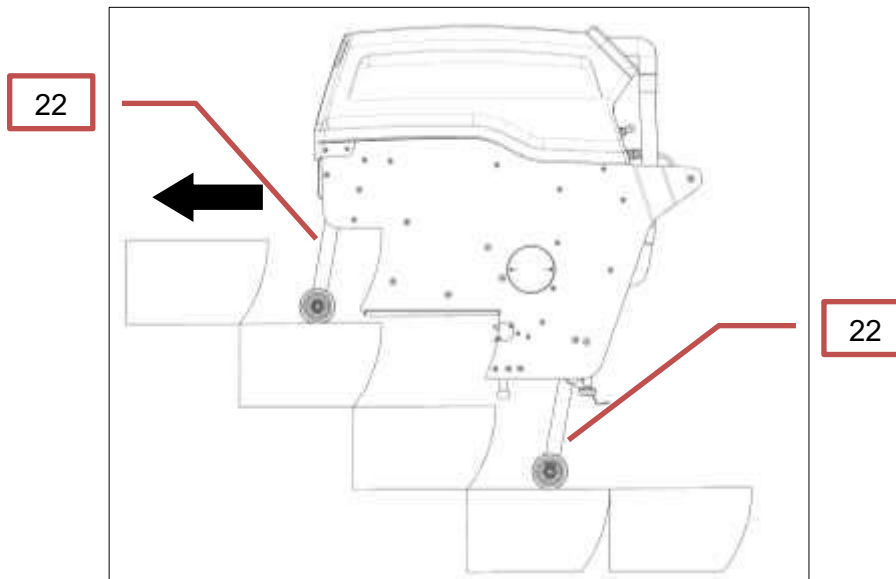
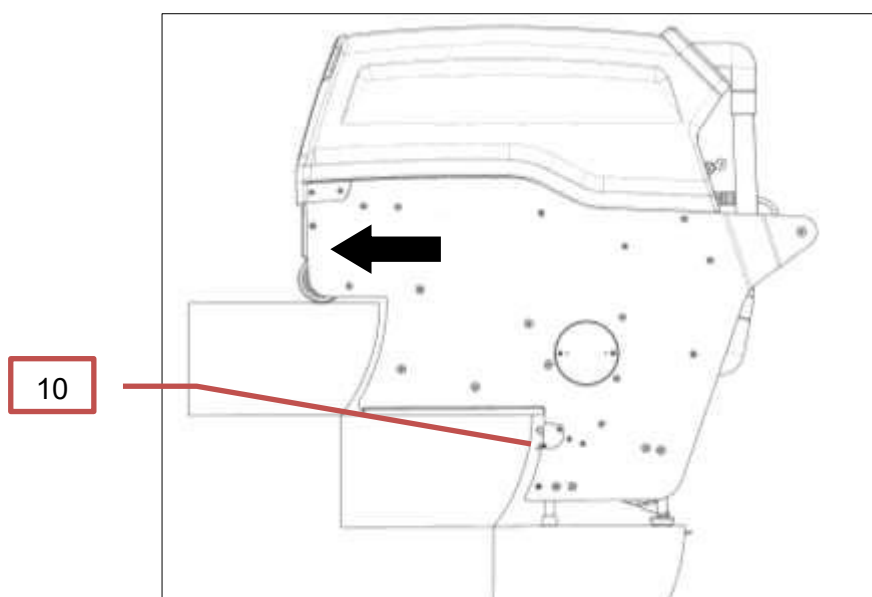

Figure 4 Fixing the machine
Figure 9 Positioning the machine
The machine with extended lifting spindles (18) should then be shoved into the escalator and moved by authorised escalator operators to the first completely extended step (Fig. 4: Fixing the machine).
- Put Key switch (5) on „1“.
- Choose program „3“ with the mode switch (14).
- Press Automatic ON (10).
In order to achieve an ideal moisture content on the brushes, the first step should be cleaned twice at the beginning of the cleaning operation. After the machine - lying on the left side of the escalator - is shoved into the escalator step until the wheels stop until the seal strip (34) is arrested (Fig. 9: Positioning the machine).
The pre-selected programme can now be started. When the cleaning cycle has been completed, the machine is raised (Fig. 9: Raising the machine).
The machine is then shoved forward again until the wheels stop on the next highest step (Fig. 4: Fixing the machine), and then lowered again. The machine can now be shoved on the glide rails into the new working position (Fig. 9: Positioning the machine).